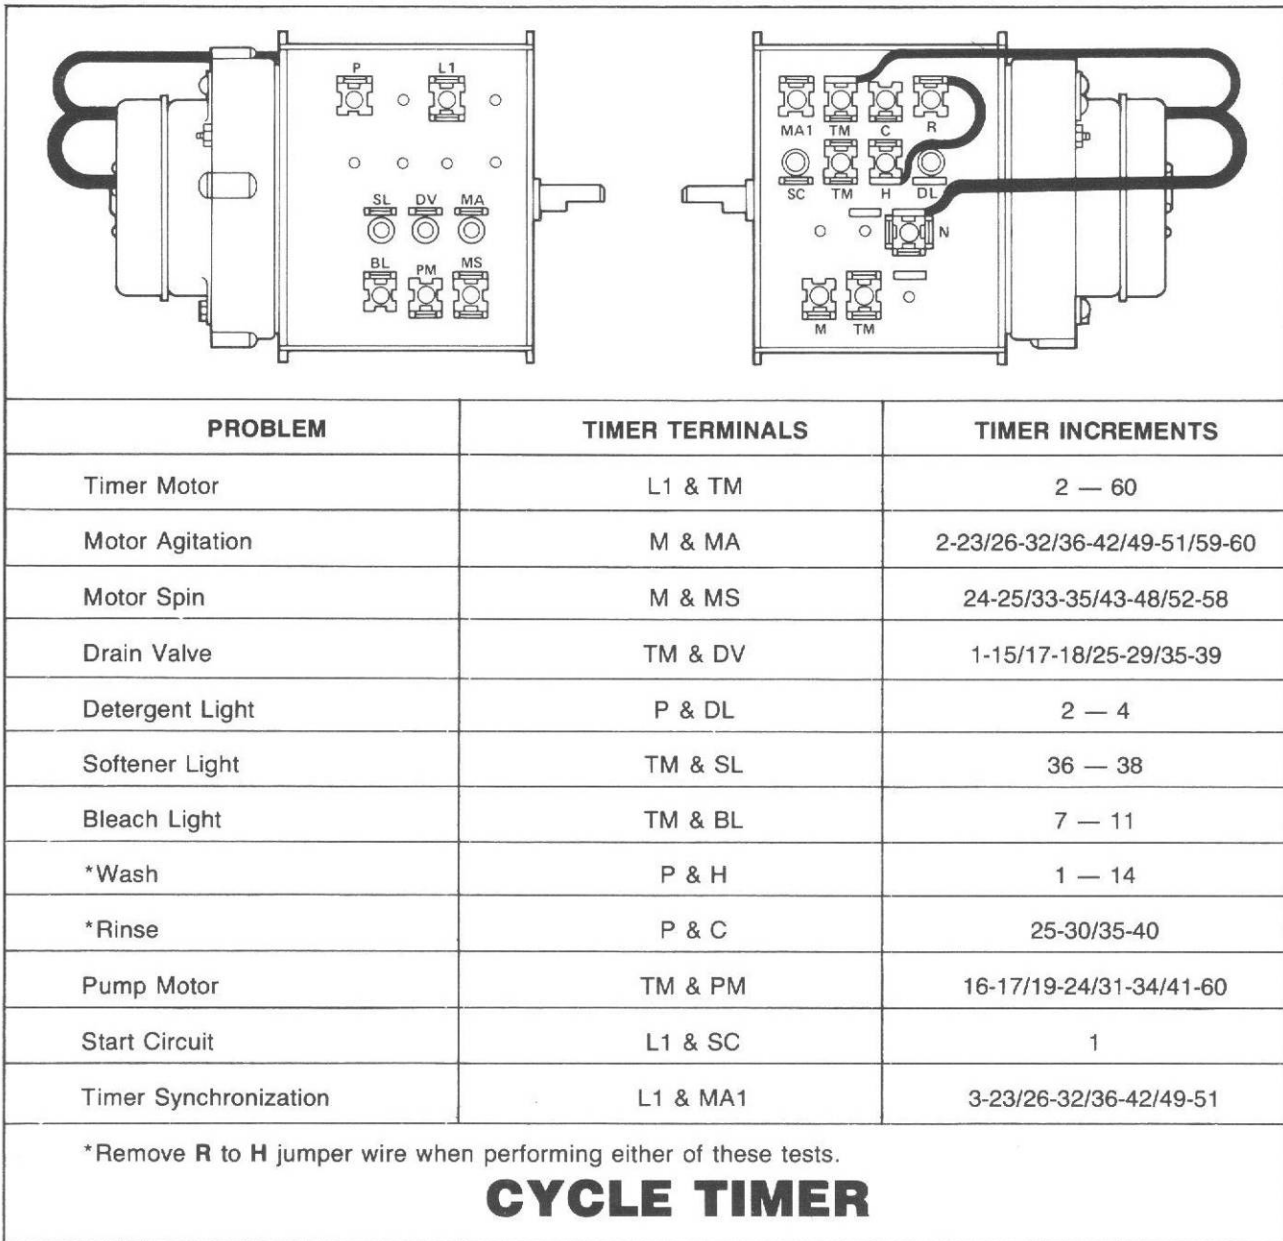

Figure 54
- c. Apply meter probes to timer terminals indicated in *Figure 54* for continuity check.